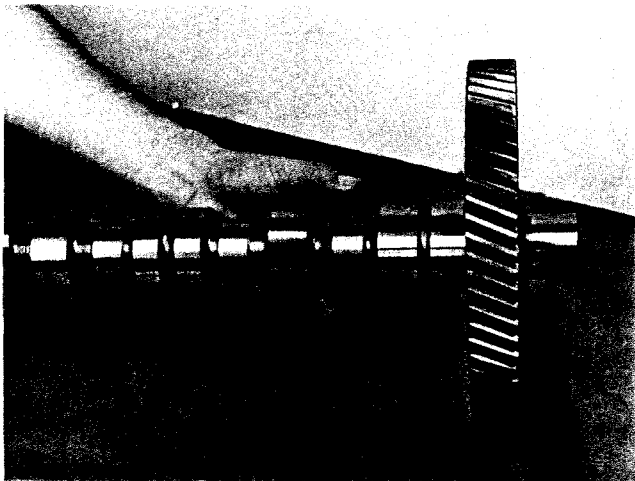

Fig. 14-16, (N114253). Installing camshaft thrust ring
2. Coat both sides of thrust rings with high pressure lubricant and install over end of camshaft with oil grooves toward camshaft gear. Fig. 14-16.